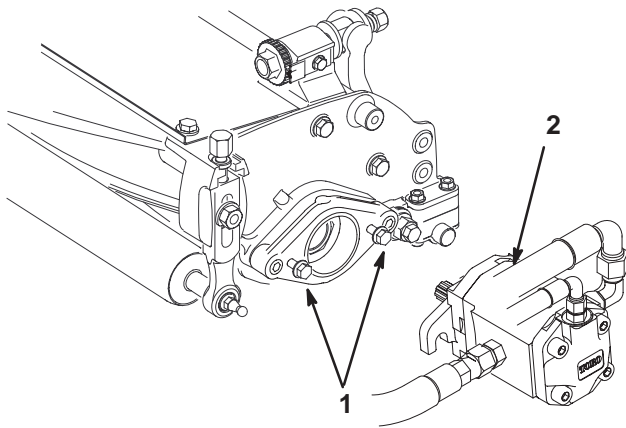

Figure 20
9. Assemble the mounting screws for the reel drive motor to each cutting unit. Leave approximately 1/2 in. (13 mm) of the threads exposed on each mounting screw (Fig. 20).
11. Coat the spline shaft of the motor with clean grease and install the motor by rotating the motor clockwise so the motor flanges clear the studs. Rotate the motor counterclockwise until the flanges are encircling the studs and tighten the mounting capscrews (Fig. 20).